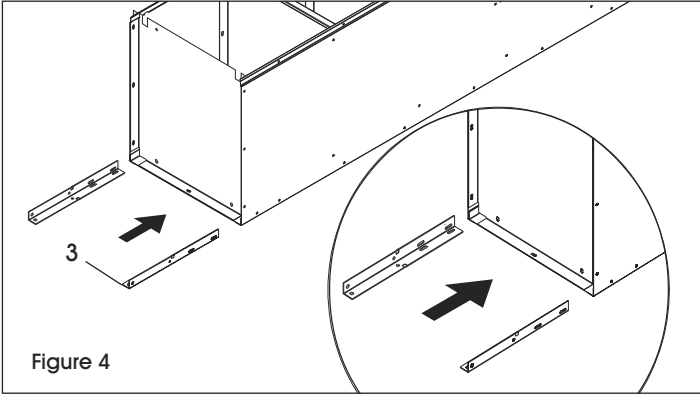

Figure 4
5. Insert rear legs (3) into outside corner between the bottom and the side. Bolt leg to side using two bolts and nuts per leg. (See Figure 4)